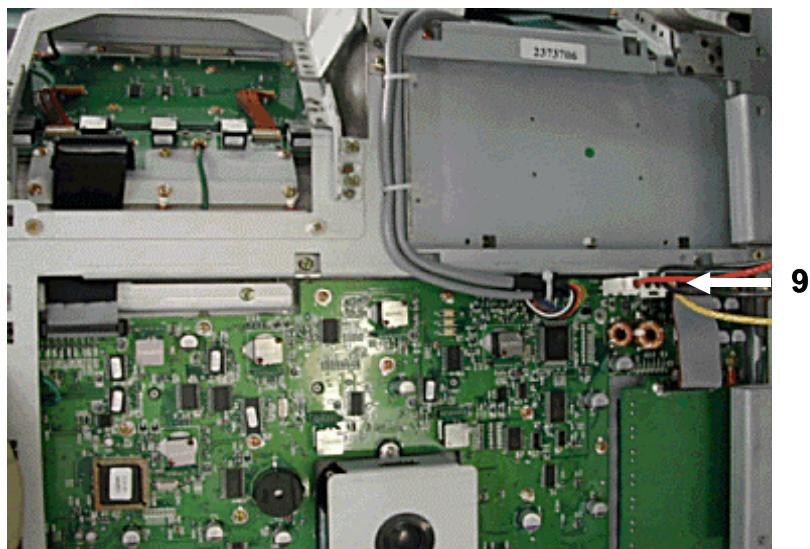

Figure 8-20 Disconnect two connectors
- 5.) Disconnect a connectors (9). Refer to Figure 8-20.